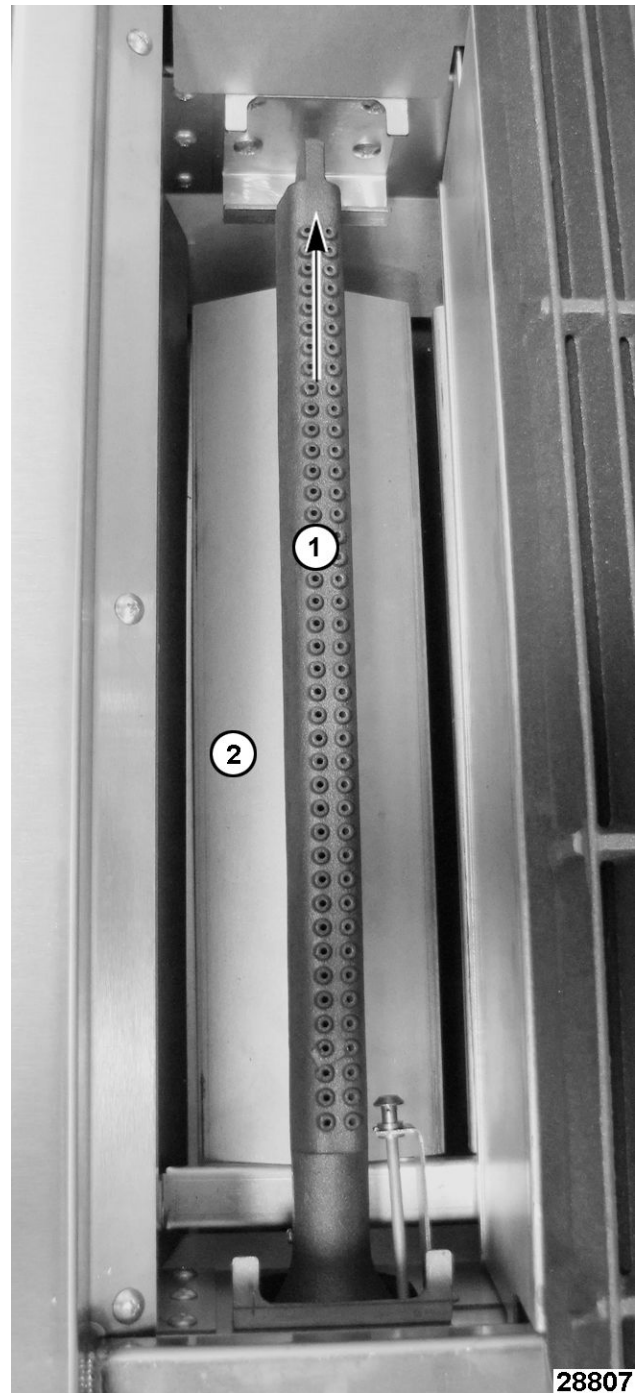

Fig. 91
4. Remove burner (1, Fig. 91) and deflector (2, Fig. 91) by lifting at the rear of burner.